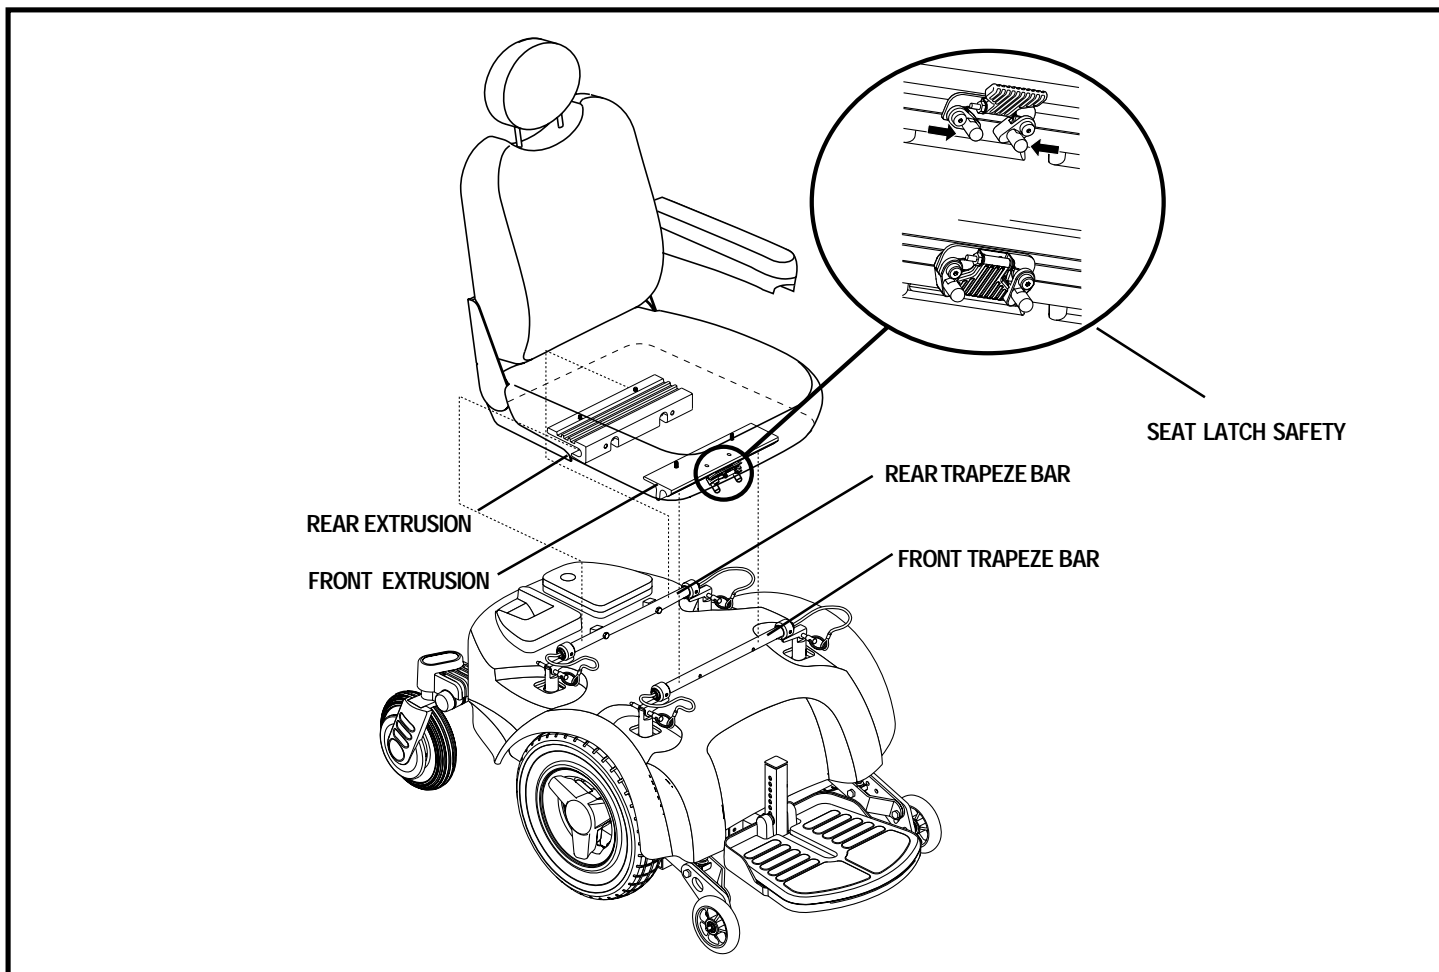

Figure 10. Seat Installation
It may be necessary to install the seat either prior to initial operation or after transporting your power chair. Most seats are attached to the power base with the Universal Mounting System (UMS). The UMS consists of universal parts that may be attached to any medium-back or high-back seat, regardless of seat width or seat depth. The two main components are aluminum extrusions mounted to the seat base. These extrusions attach to a pair of trapeze bars that are mounted to the power base. See figure 10. If your power chair is equipped with a Synergy Seat or a TRU-Balance Power Positioning System, refer to the information provided in separate manuals.
2. Tilt the seat back and slide the rear extrusion onto the rear trapeze bar. See figure 10.